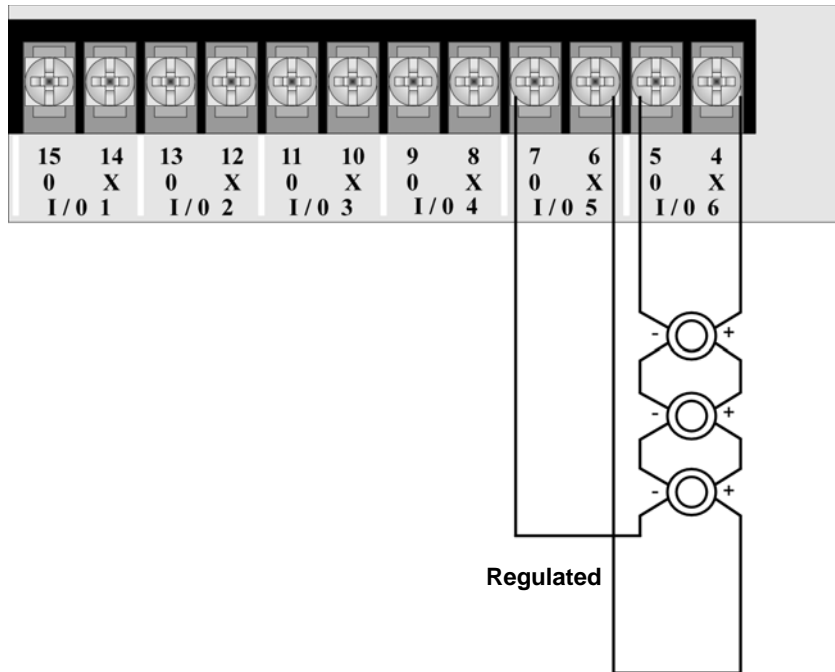

Figure 3.13 Class A Notification Appliance Circuit Configuration
1. Wire the Class A notification appliances as shown in Figure 3.13.
NOTE: In programming any point that uses multiple I/O circuits are always referred to as the lowest I/O circuit number used. For example, Figure 3.13 uses both I/O circuit 5 and 6, so in programming it would be referred to as point 5.